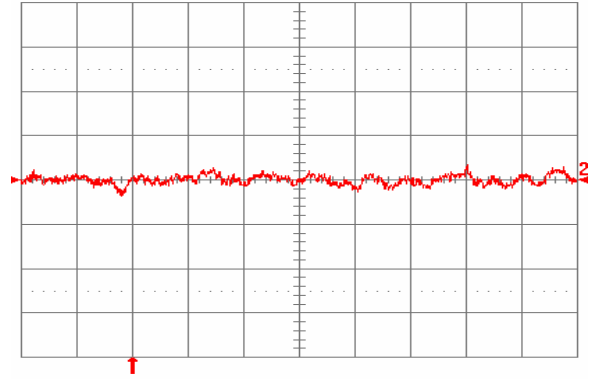

**Fig. 1.5V.14:** Test Setup for measuring input reflected ripple currents,  $i_c$  and  $i_s$ .
**Fig. 1.5V.1:** Available load current vs. ambient air temperature and airflow rates for SQ48T15015 converter with D height pins mounted vertically with  $V_{in} = 48\text{ V}$ , air flowing from pin 3 to pin 1, and maximum FET temperature  $\leq 120\text{ }^\circ\text{C}$
**Fig. 1.5V.2:** Available load current vs. ambient air temperature and airflow rates for SQ48T15015 converter with D height pins mounted horizontally with  $V_{in} = 48\text{ V}$ , air flowing from pin 3 to pin 1, and maximum FET temperature  $\leq 120\text{ }^\circ\text{C}$ .
**Fig. 1.5V.3:** Available load current vs. ambient air temperature and airflow rates for SQ48S15015 converter mounted vertically with  $V_{in} = 48\text{ V}$ , air flowing from pin 3 to pin 1, and maximum FET temperature  $\leq 120\text{ }^\circ\text{C}$ .
**Fig. 1.5V.4:** Available load current vs. ambient air temperature and airflow rates for SQ48S15015 converter mounted horizontally with  $V_{in} = 48\text{ V}$ , air flowing from pin 3 to pin 1, and maximum FET temperature  $\leq 120\text{ }^\circ\text{C}$ .
**Fig. 1.5V.5:** Efficiency vs. load current and input voltage for SQ48T/S15015 converter mounted vertically with air flowing from pin 3 to pin 1 at a rate of 300 LFM (1.5 m/s) and  $T_a = 25\text{ }^\circ\text{C}$ .
**Fig. 1.5V.6:** Efficiency vs. load current and ambient temperature for SQ48T/S15015 converter mounted vertically with  $V_{in} = 48\text{ V}$  and air flowing from pin 3 to pin 1 at a rate of 200 LFM (1.0 m/s).
**Fig. 1.5V.7:** Power dissipation vs. load current and input voltage for SQ48T/S15015 converter mounted vertically with air flowing from pin 3 to pin 1 at a rate of 300 LFM (1.5 m/s) and  $T_a = 25\text{ }^\circ\text{C}$ .
**Fig. 1.5V.8:** Power dissipation vs. load current and ambient temperature for SQ48T/S15015 converter mounted vertically with  $V_{in} = 48\text{ V}$  and air flowing from pin 3 to pin 1 at a rate of 200 LFM (1.0 m/s).
**Fig. 1.5V.9:** Turn-on transient at full rated load current (resistive) with no output capacitor at  $V_{in} = 48\text{ V}$ , triggered via ON/OFF pin. Top trace: ON/OFF signal (5 V/div.). Bottom trace: output voltage (0.5 V/div.). Time scale: 2 ms/div.
**Fig. 1.5V.10:** Turn-on transient at full rated load current (resistive) plus 10,000  $\mu\text{F}$  at  $V_{in} = 48\text{ V}$ , triggered via ON/OFF pin. Top trace: ON/OFF signal (5 V/div.). Bottom trace: output voltage (0.5 V/div.). Time scale: 2 ms/div.
**Fig. 1.5V.11:** Output voltage response to load current step-change (3.75 A – 7.5 A – 3.75 A) at  $V_{in} = 48$  V. Top trace: output voltage (100 mV/div.). Bottom trace: load current (5 A/div.). Current slew rate: 0.1 A/ $\mu$ s.  $C_o = 1$   $\mu$ F ceramic. Time scale: 0.2 ms/div.
**Fig. 1.5V.12:** Output voltage response to load current step-change (3.75 A – 7.5 A – 3.75 A) at  $V_{in} = 48$  V. Top trace: output voltage (100 mV/div.). Bottom trace: load current (5 A/div.). Current slew rate: 5 A/ $\mu$ s.  $C_o = 450$   $\mu$ F tantalum + 1  $\mu$ F ceramic. Time scale: 0.2 ms/div.
**Fig. 1.5V.13:** Output voltage ripple (20 mV/div.) at full rated load current into a resistive load with  $C_o = 10$   $\mu$ F tantalum + 1  $\mu$ F ceramic and  $V_{in} = 48$  V. Time scale: 1  $\mu$ s/div.
**Fig. 1.5V.15:** Input reflected ripple current,  $i_c$  (100 mA/div.), measured at input terminals at full rated load current and  $V_{in} = 48$  V. Refer to Fig. 1.5V.14 for test setup. Time scale: 1  $\mu$ s/div.
**Fig. 1.5V.16:** Input reflected ripple current,  $i_s$  (10 mA/div.), measured through 10  $\mu$ H at the source at full rated load current and  $V_{in} = 48$  V. Refer to Fig. 1.5V.14 for test setup. Time scale: 1  $\mu$ s/div.
**Fig. 1.5V.17:** Output voltage vs. load current showing current limit point and converter shutdown point. Input voltage has almost no effect on current limit characteristic.
**Fig. 1.5V.18:** Load current (top trace, 20 A/div., 20 ms/div.) into a 10  $m\Omega$  short circuit during restart, at  $V_{in} = 48$  V. Bottom trace (20 A/div., 1 ms/div.) is an expansion of the on-time portion of the top trace.